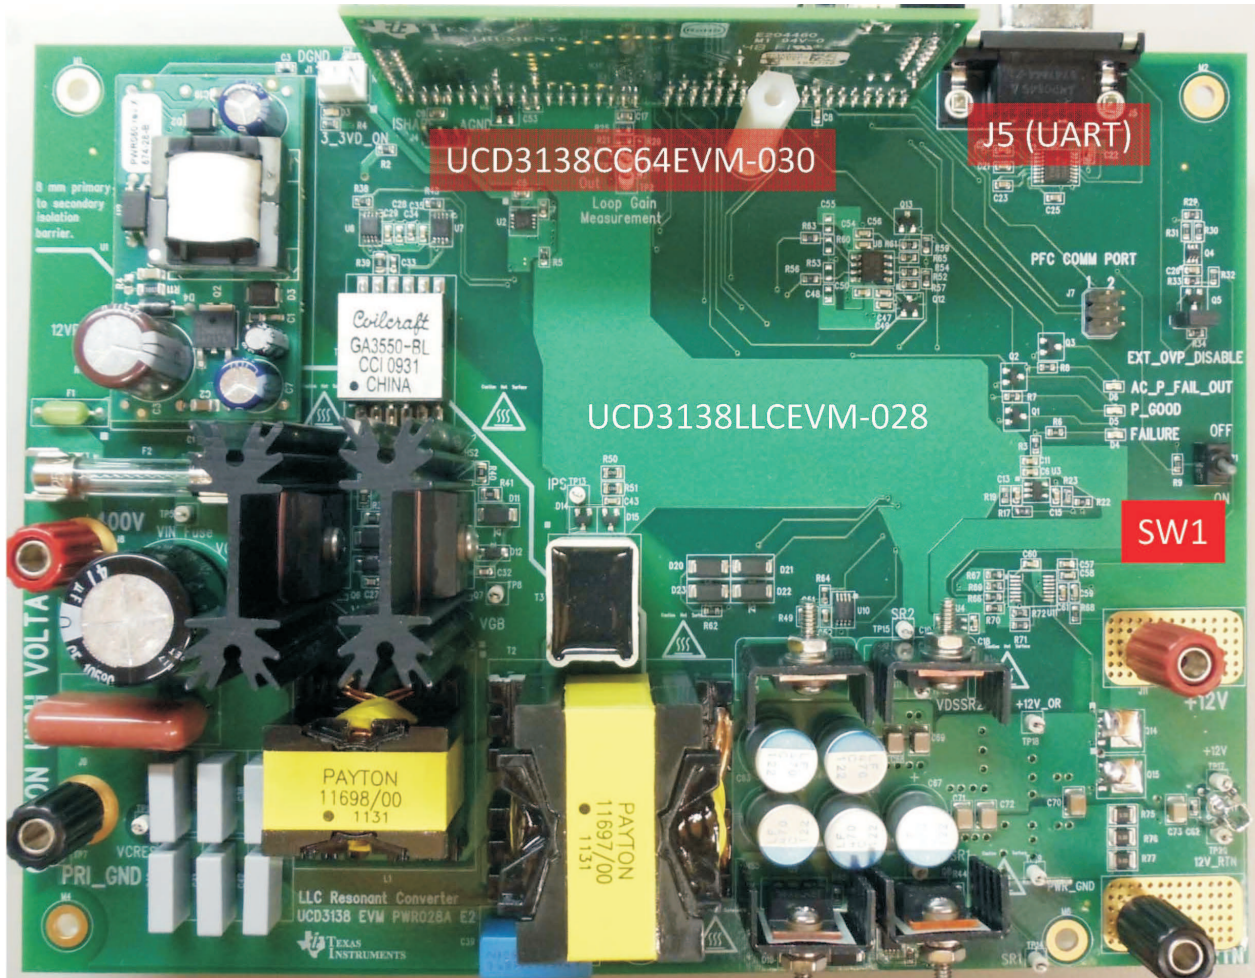

Figure 6. Orientation of Board UCD3138CC64EVM-030 on Board UCD3138LLCEVM-028
4. First install the UCD3138CC64EVM-030 board onto the UCD3138LLCEVM-028. Care must be taken with the alignment and orientation of the two boards, or damage may occur. Refer to Figure 6 for UCD3138PFCEVM-030 board orientation.